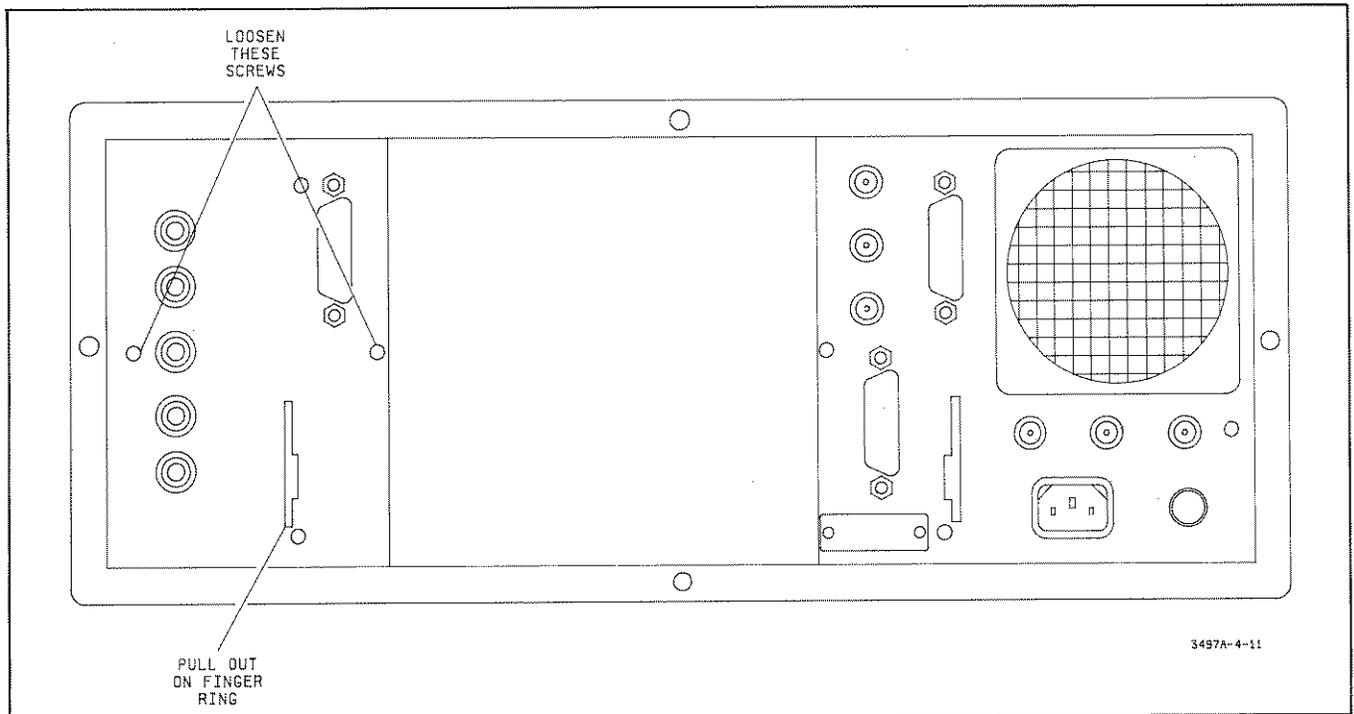

Figure 4-11. Inguard Board Mounting Screws and Finger Ring
1. Turn the 3497A off. Refer to Figure 4-11 and install any missing jumpers (A16J7 through J10).
- c. Refer to Figure 4-11. Note that the Inguard Controller board is held in place by two mounting screws. Loosen the screws, but do not remove them. They are held in place by a rubber grommet.
- d. Locate the built-in finger ring, shown in Figure 4-11, and pull on the ring to remove the board from the 3497A chassis.
5. Locate the mounting screws, shown in Figure 4-11, and tighten the screws. Reinstall the rear cover bracket.